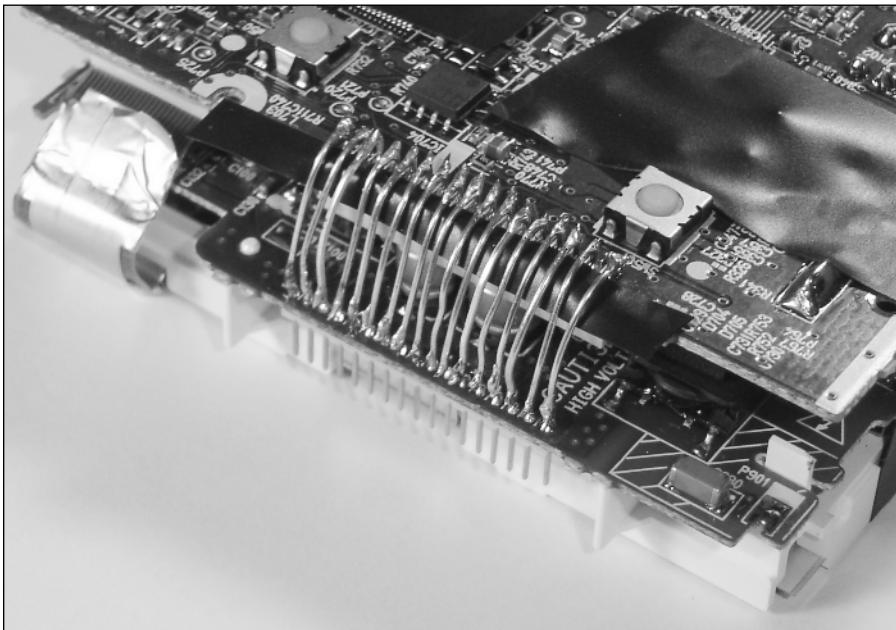

FIGURE 4-18: The seventeen leads connecting the sides together.
4. Use bits of leads to connect the seventeen leads together, as shown in Figure 4-18. Keep all the connections on the left or right sides so that they won't bump into each other.